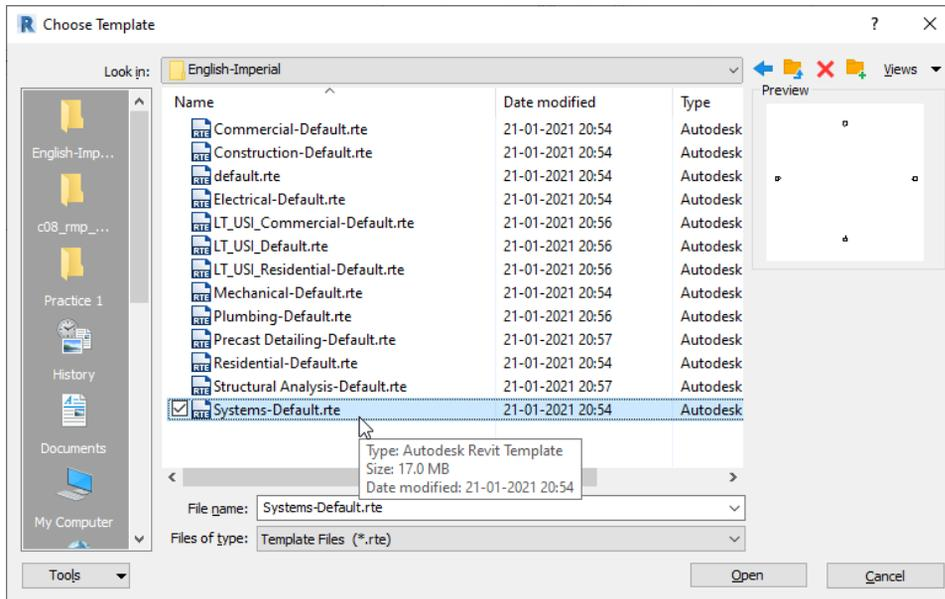

Figure 2-28 Selecting the *Systems-Default.rte* file from the *Choose Template* dialog box
2. In the **Choose Template** dialog box, select the **Systems-Default** template file from the list, as shown in Figure 2-28. For Metric system, select the **Systems-Default\_Metric** template file from the list. Choose the **Open** button the **Choose Template** dialog box is closed.